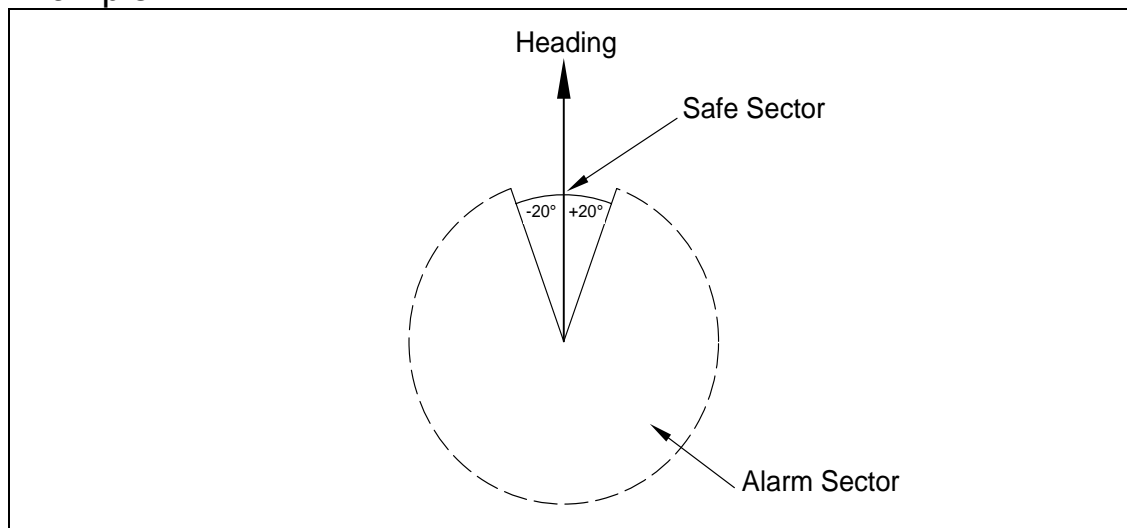

Fig 2.2 - Sector Alarm
**SECTOR ALARM** - This is generated when the heading leaves the safe sector as shown in Fig 2.2. - Sector Alarm.